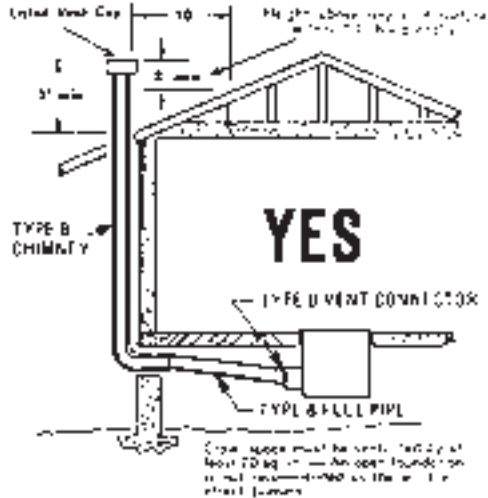

Figure 1
1. Flue pipe **MUST** always have an upward slope (1/4 inch per foot minimum). **See Figure 1.**
- If there is no chimney, you will have to run a flue pipe from the furnace, up to and above the house roof. **See Figure 1.** Select a location permitting the most direct run. Try going up to the roof through a closet. Remember that the flue pipe must slope upwards at least 1/4 of an inch for each foot and you may find floor joints in our path, so it is important to plan the run carefully. **See Figure 8.**